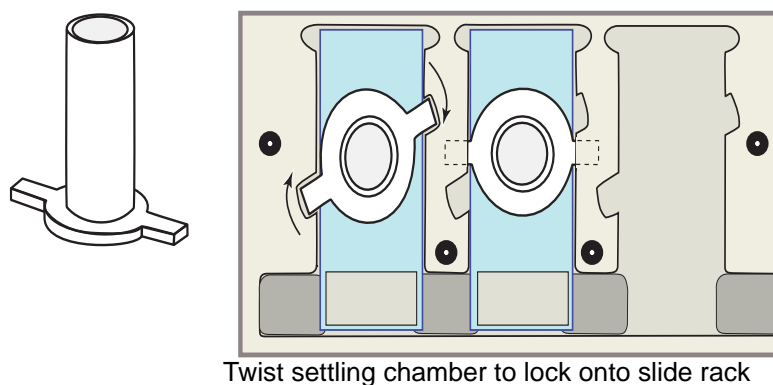

Figure 4-2 Lock BD Settling Chambers over each slide
2. Lock the chamber into place over each slide on the slide rack as shown in *Figure 4-2*.